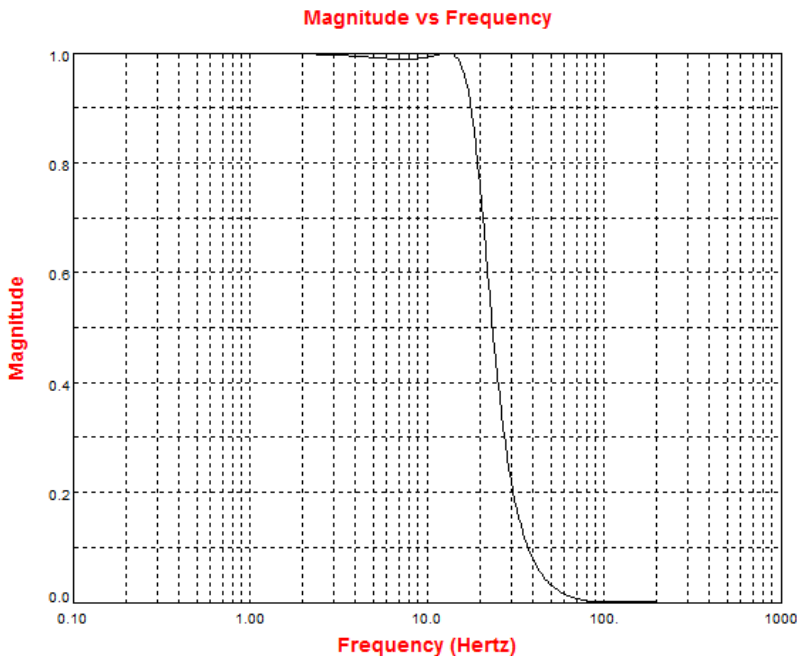

Figure 4 - MitiGator+ anti-alias filter response
- A low pass anti-alias filter that attenuates high frequency signals above 15Hz (Figure 4)